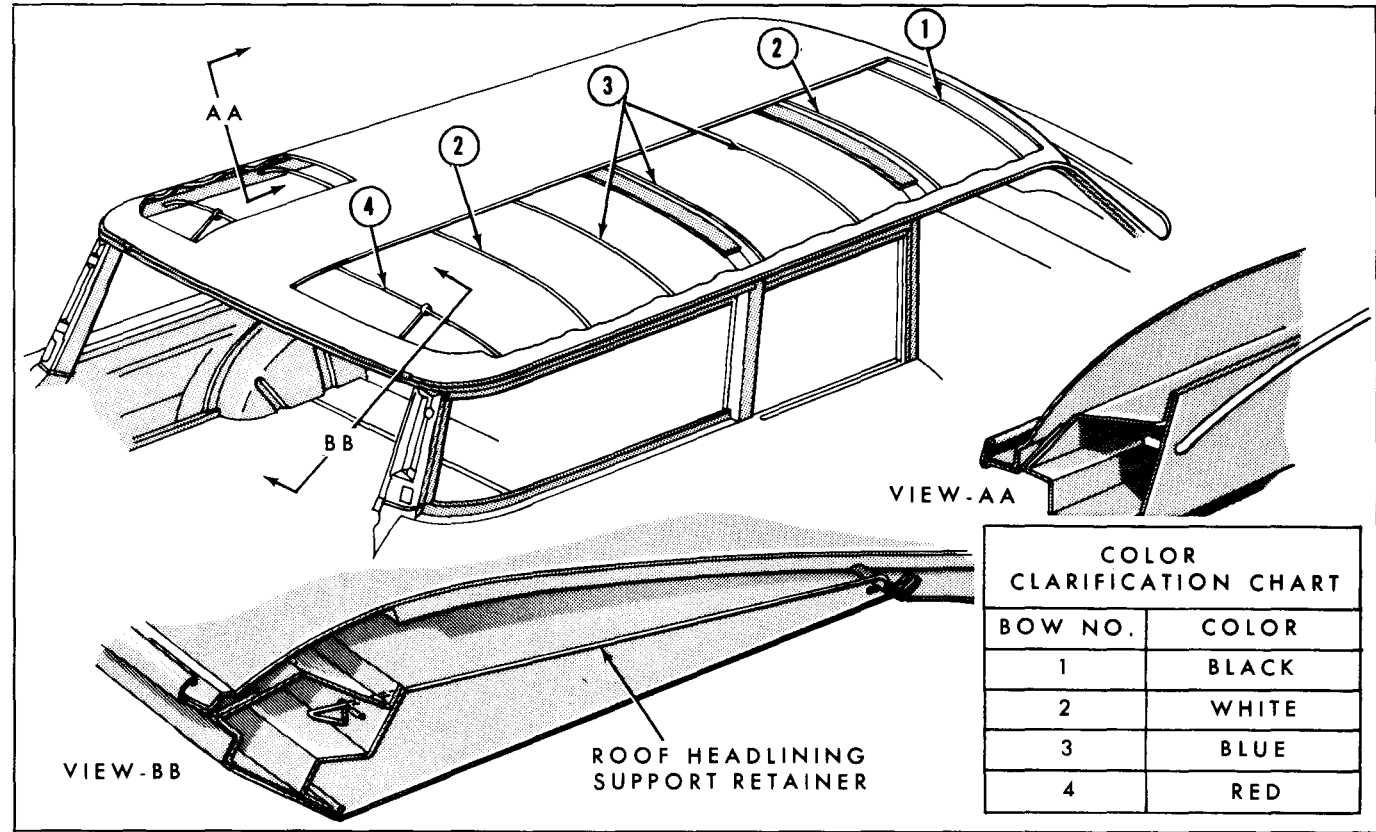

Fig. 13D-5—Roof Bow Color Chart—Models 59, 71—(60C-8061)
- 15. Starting at windshield header and working toward the rear, pry the roof bows out of retainers. Remove the two rear headlining support retainers. Remove headlining assembly with roof bows. **The roof bows are of different lengths and are marked as shown on Roof Bow Color Chart, figure 13D-5. If identification is lacking on the roof bows, mark each bow to assure proper installation.**
1. Insert roof bows into listings of headlining. Refer to Roof Bow Color Chart, figure 13D-5, to make sure each bow is in its proper listing.
2. Starting at the rear of body, insert end of the rear (No. 4) bow into retainers on the roof side rail. Install the two headlining rear support retainers. See figure 13D-5.